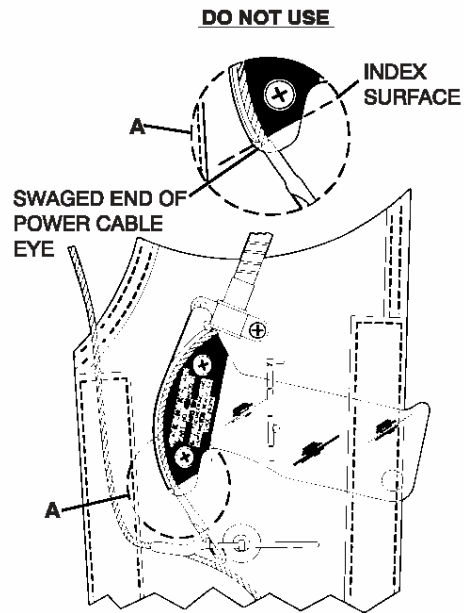

Figure 6. Power Cable Assembly, Unsafe.
- (2) Refer to Figure 6. If the end of the eye does extend past the index surface, then something is wrong with the cable routing, or the power housing (conduit) may be damaged. The power cable assembly should be removed from service immediately.